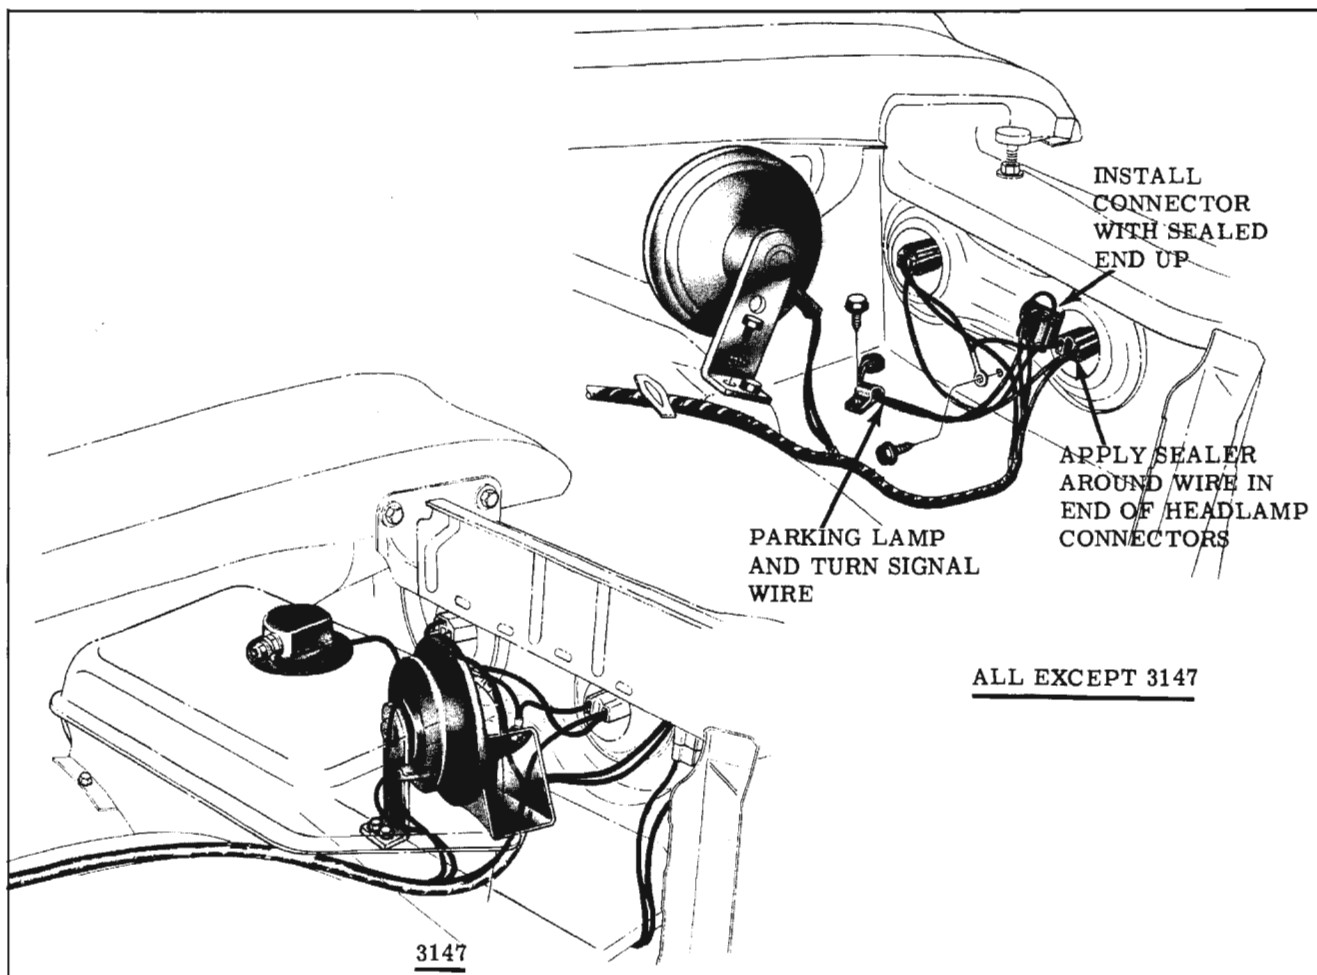

Fig. 14-145 Horns
The horns are mounted one on each inner front fender baffle. (Fig. 14-145)
1. Disconnect horn lead wire from horn terminal. (Fig. 14-145)